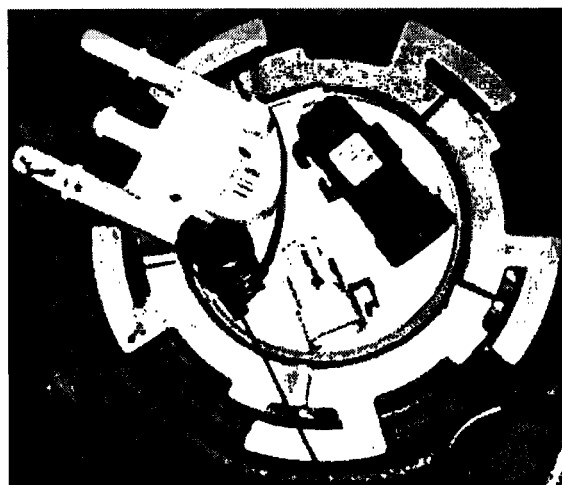

figure 9
9. Press the two plastic pieces together and use the tie strap supplied to add support. The strap goes underneath and around the fuel pump assembly as shown in *figure 9*. Hand tighten the tie strap.